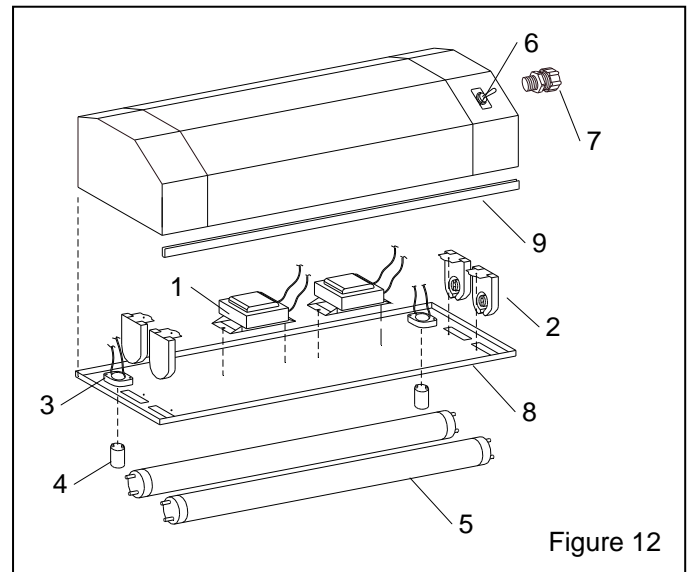

Figure 12
9.5 Light Shield Assembly w/Switch, Figure 12